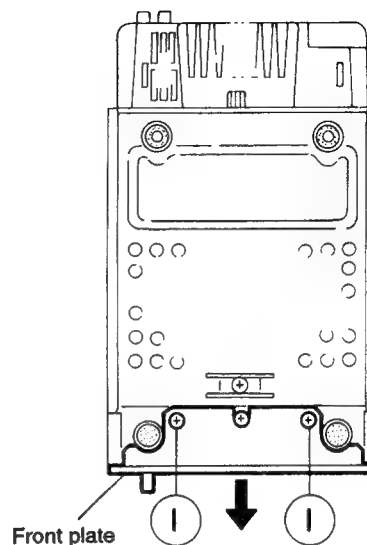

Fig. 5-3
### ■ Removing the front plate (See Figs. 5-3 and 5-4)
1. After turning over the body, remove the two screws ① retaining the front plate (See Fig. 5-3).